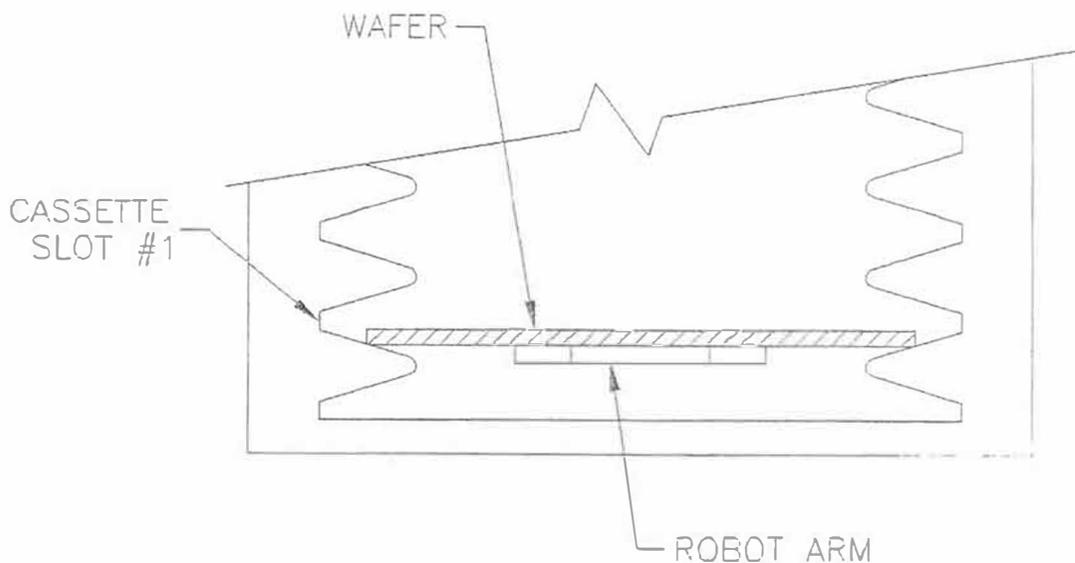

Figure 7
- .6 Using your hands rotate the robot clockwise to face the cassette. Position the robot and wafer so that it matches the first slot in the cassette. Move the robot arm into the first slot until the wafer is in the cassette, slot 1 and the robot arm is still touching the bottom of the wafer. (See figure 7) There are two methods to achieve this **A and B**.
- .5 Move #2 Moves the arm to touch the bottom side of the wafer. (See figure 7)
- .8 Press "NXT" four times and observe the robot action. If you are no satisfied, re-teach the cassette position by following steps 6.1 through 6.9 or adjust the positions manually by changing the numbers. *NOTE: The "Z" position is as shown in figure 7.*
- .4 Press "PUT" and enter "1" for station (Cassette) #1. Enter "2" for slot two. The robot will now place the wafer into slot 2. Repeat items 8.3 and 8.4 for all of the slots. The pitch value is accumulative as the robot goes up in slots. What works good for slot two may be to high for slot 25. In this case decrease the pitch value slightly. For example: Change the pitch value from 2500 to 1495.
- .5 Put one 150mm wafer into cassette slot #1. Rotate the robot to face the cassette and move the robot arm into position, just touching the bottom of the wafer. (See figure 7)
- .7 Repeat items 12.1 through 12.6 for cassette #4, comparing it to 200mm cassette #2.